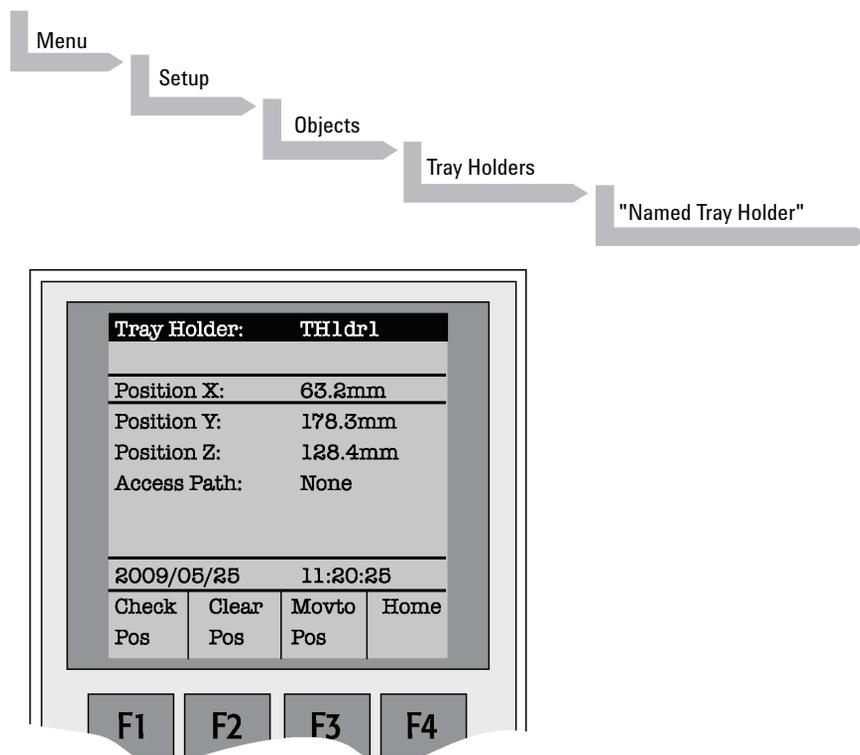

Figure 19 Menu Screen Object Trayholder
- 4 After selecting "**Named Tray Holder**" the X- Y- Z-positions for the object will be displayed (see Figure 19 on page 60).